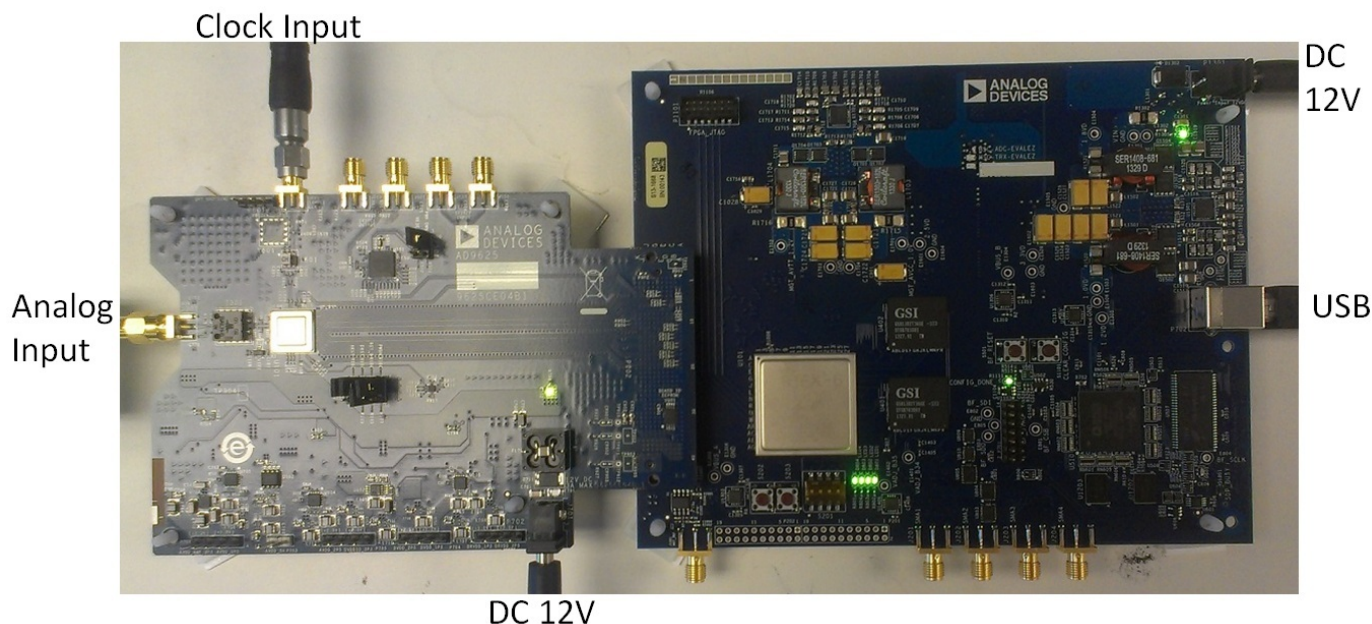

Figure 1. AD9625 Evaluation Board (Left) and HSC-ADC-EVALEZ Data Capture Board (Right)
1. Connect the AD9625 evaluation board and the HSC-ADC-EVALEZ board together with the FMC connector as shown in Figure 1. Do not change any jumper settings on the evaluation board.